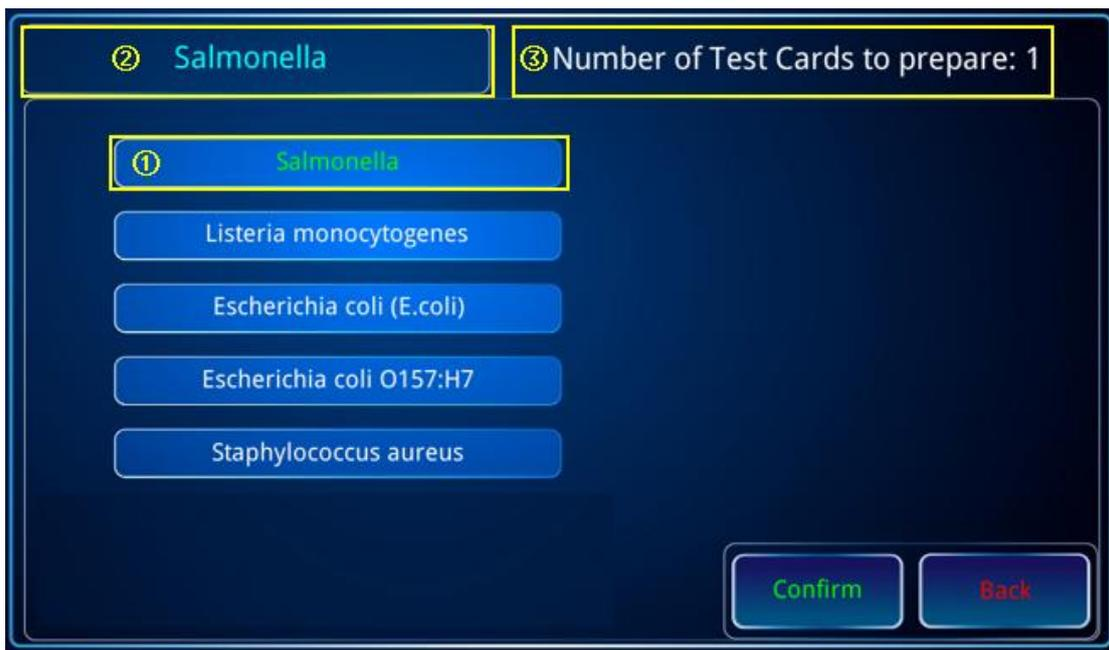

Figure 8 Detection Target Selection Page
The screen will automatically transition to the Detection Target Selection Page. On this page, select the Detection Target by clicking its name. For example, click "Salmonella" (Figure 8 ①). The selected target will be highlighted in green (Figure 8 ①) and displayed in the upper left box (Figure 8 ②). The number of Test Cards required for the test will be shown in the upper right of the screen (Figure 8 ③).
Click "Confirm" to proceed to the next step, or click "Back" to return to the Main Page (Figure 8).